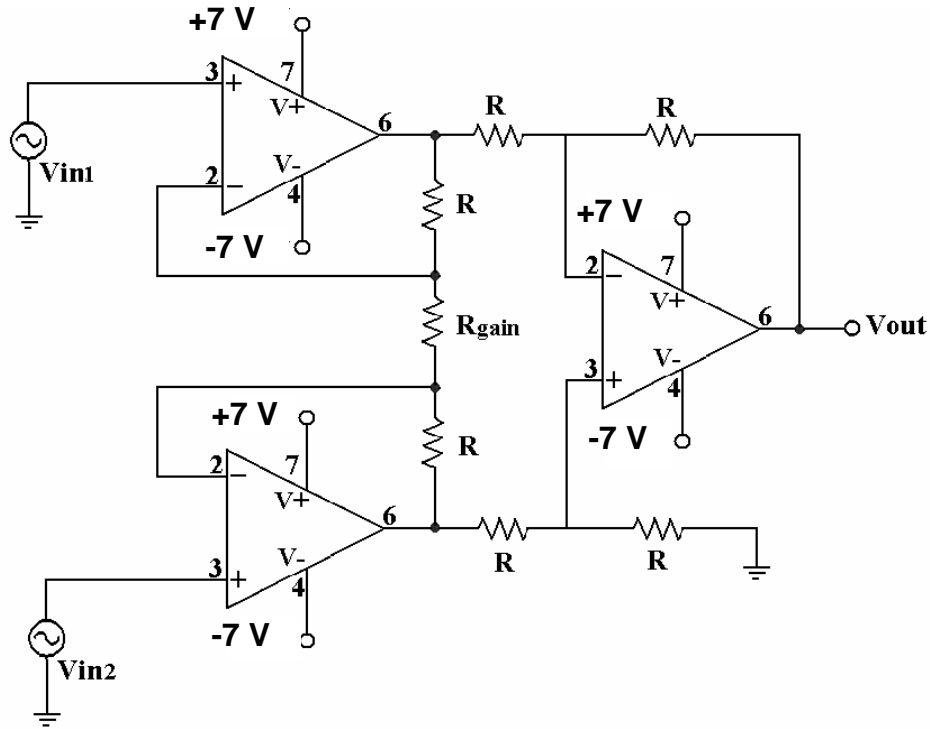

Fig. 3. Typical instrumentation amplifier circuit
*Instrumentation amplifier:* The instrumentation amplifier is a differential amplifier that has high input impedance and the capability of gain adjustment through the variation of a single resistor. A commonly used instrumentation amplifier is shown in Fig. 3.
6. For the instrumentation amplifier in Fig. 3 with power supplies  $\pm 7V$ , choose  $R$  to have  $V_{out} = 2(V_{in2} - V_{in1})$  if  $R_{gain} = 20K\Omega$ .